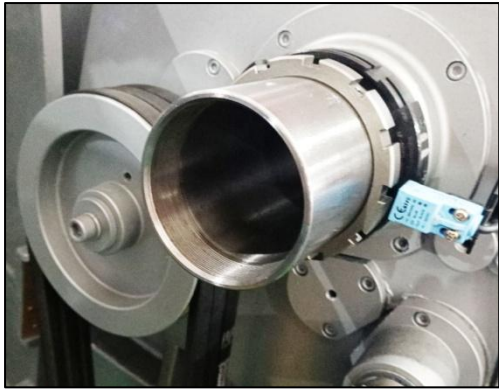

Figure 11
1. Mark lock nut and spindle. **(Figure 11)**
2. Mark balance weights on lock nut **(Figure 11)**